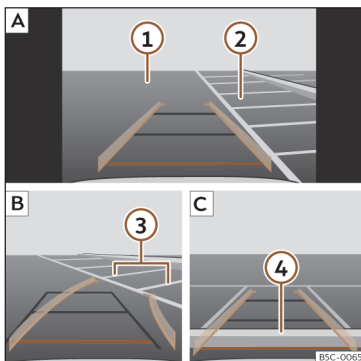

Fig. 162 Display on the infotainment system screen: parking with the reverse assistant.
Key to the >>> **Fig. 162:**
- Stop the vehicle in front of the parking space >>> **Fig. 162 2 A**.